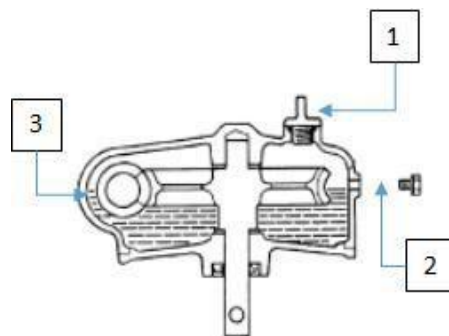

**Fig.12**
**5.4. Fuel filter. (Fig.12)**